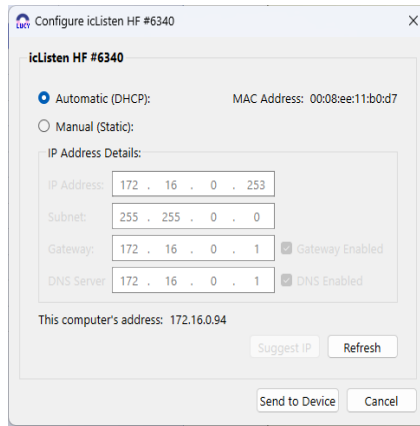

Figure 2-2 Configure Device Dialog – Automatic (DHCP)
Configure... - Allows the user to make changes to the IP Addressing of the icListen hydrophone (Figure 2-2). See (Configure icListen - Device Link Options) for further information on configuring the icListen IP address.
- **Configure ...** - Allows the user to make changes to the IP Addressing of the icListen hydrophone (Figure 2-2). See (**Configure icListen - Device Link Options**) for further information on configuring the icListen IP address.